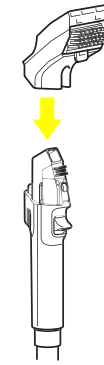

fig. 3
3. Attach chosen hand tool to HairPro Crevice Tool, or place on the Tool holder (**fig. 3**).